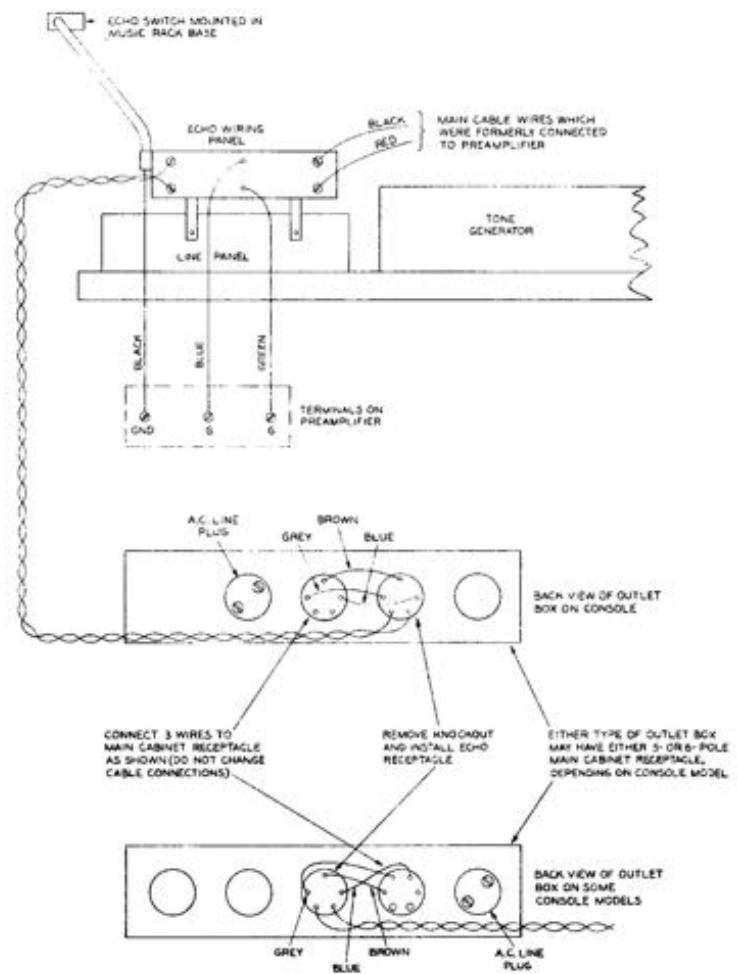
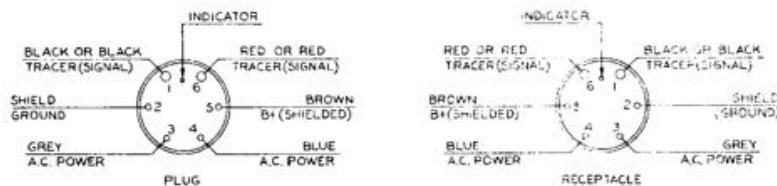

FIGURE 5 - WIRING OF ECHO KIT
FIGURE 6 - CONNECTIONS OF CABLE TO 6-POLE PLUG AND RECEPTACLE
6. Unfasten outlet box from base of console, open it, knock out proper receptacle hole blank (see figure 5) and mount echo receptacle. Solder connections as indicated in figure 5. Pull twisted pair of wires up through wiring tube. Reassemble outlet box and attach it to console. Replace pedal switch cover if it was raised in step 4.
7. Replace any other parts previously removed. Fasten echo wiring panel on top of line panel cover and connect all wires as shown in figure 5.
- Mount echo receptacle in outlet box (see figure 5). Cut off 6-conductor cable to proper length to connect it to outlet box, and mount 6-conductor plug and plug cap on remaining piece of cable. Figure 6 shows connections to plug and receptacle.